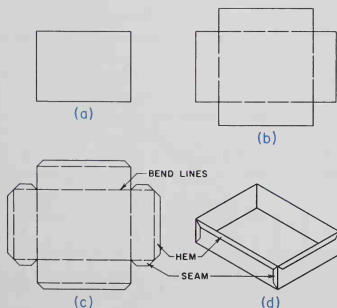

Fig. 11-4. Steps in laying out a rectangular pattern.
1. Draw the bottom of the pan (or top of radio chassis), Fig. 11-4 (a).
2. Add to each edge the height of the sides, Fig. 11-4 (b).
3. Add material for hems and seams if needed, Fig. 11-4 (c).
4. Cut out the pattern, then fold, and assemble with cellophane tape as a paper model; or transfer to metal, cut out, fold and assemble, Fig. 11-4 (d).